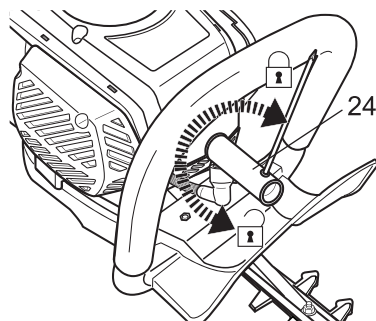

Fig. 28
- > Loosen the spark plug with the multi tool (24) anticlockwise and carefully remove it (Fig. 28).